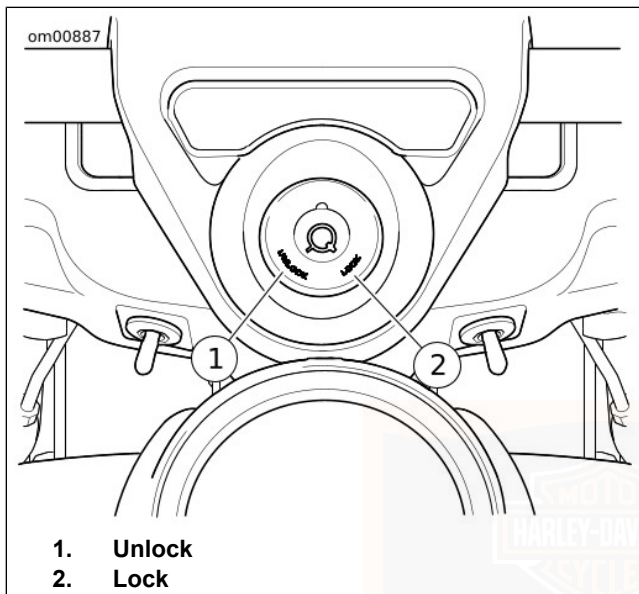

Figure 5. Fork Lock: Road King Models
FLHR, FLHRC, FLHRXS: See Figure 5. The fork lock is at the top of the steering head, behind the headlamp nacelle and inset in the handlebar clamp shroud.
2. See Figure 5. Insert key and turn key counterclockwise to LOCK position. Remove key.